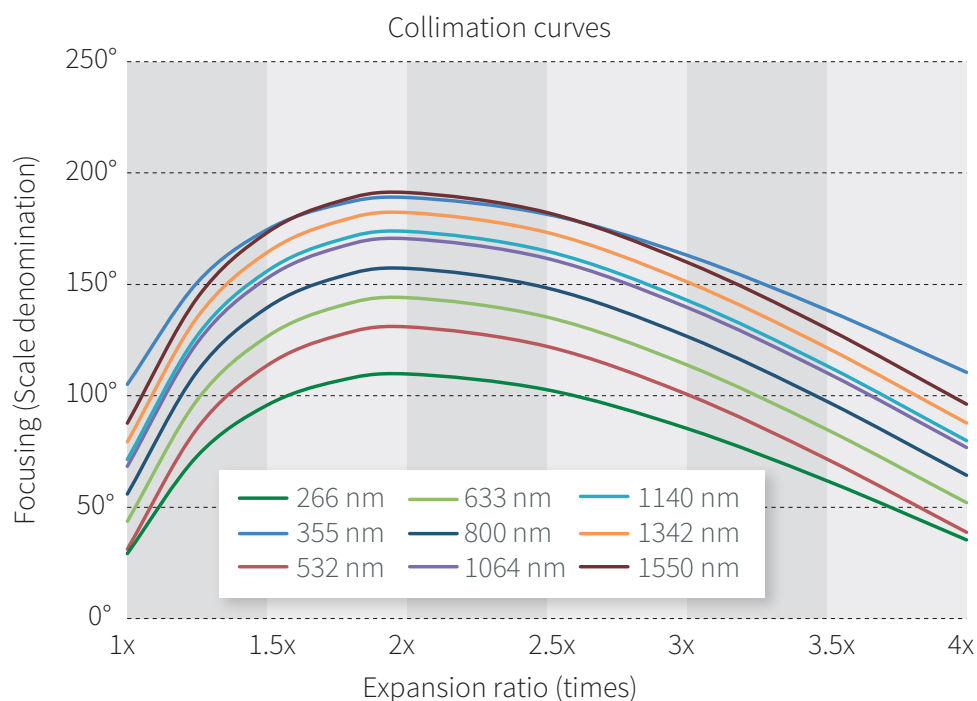

Figure 20. Collimation curves.
- 3.** Focusing cylinder should be rotated to match the angle on focusing scale as per graph below. Please note, that collimation curves are different for different wavelengths (fig. 20).